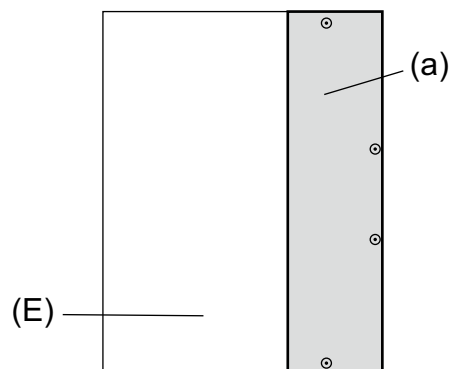

Fig.7
- ♦To avoid dew condensation, use insulated screws in the places marked with circles in Figure 7.